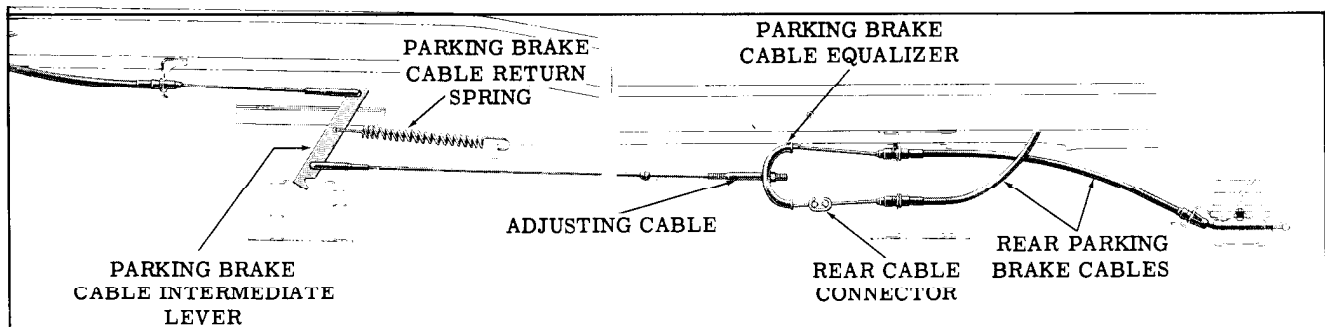

Figure 7-5 Parking Brake Layout
3. Adjust rear cables by first tightening the equalizer adjusting nut until a heavy drag is felt at rear brakes, then loosen the equalizer adjusting nut nine full turns. (Fig. 7-5)
1. Disconnect intermediate lever return spring, (Fig. 7-5)
1. Loosen nut at equalizer, (Fig. 7-5) Remove equalizer for left hand cable removal. Remove retainer clips from left and right hand cables at body bracket. Loosen right hand cable clamp from right lower suspension arm.